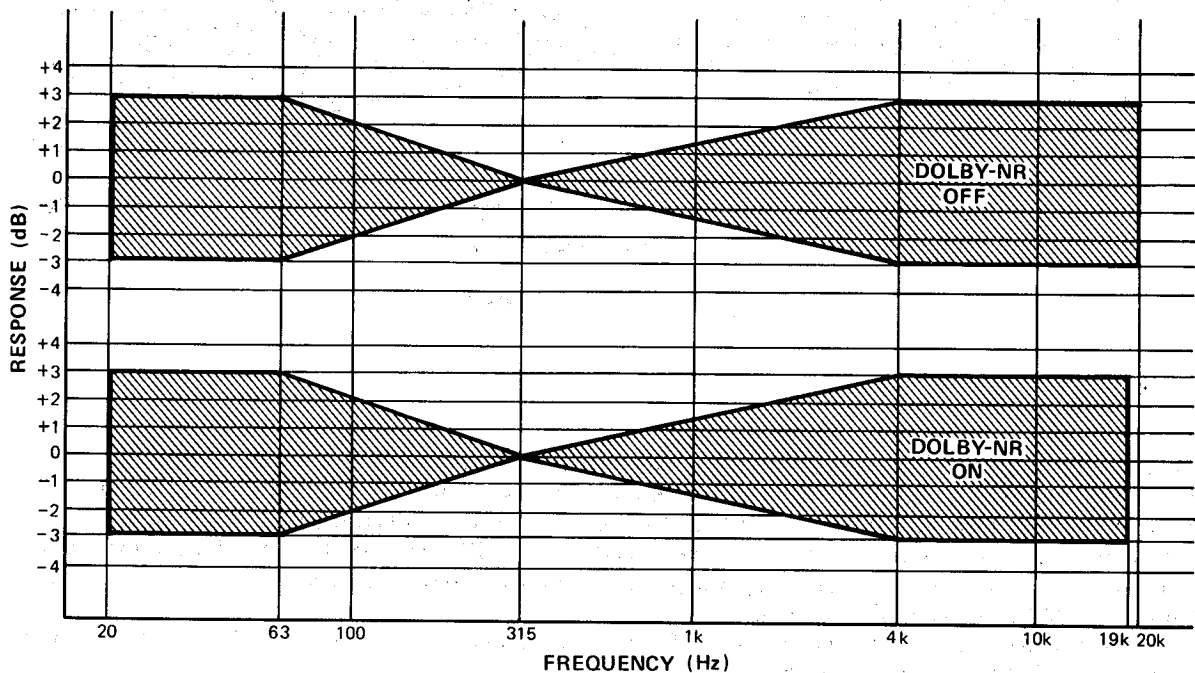

Fig. 3 – Metal
6. Play back the metal tape recorded above, note the frequency response obtained on the V.T.V.M. 2 and compare to Fig. 3.
7. If the above frequency response is not within the shaded DOLBY-NR OFF area on Fig. 3, adjust VR315 (left), VR316 (right), L301 (left peaking) and L302 (right peaking) slightly. Repeat steps 5 and 6 until playback frequency response on the V.T.V.M. 2 is adjusted within the DOLBY-NR OFF range as shown in Fig. 3.
8. Set Dolby NR switch to ON position and check if frequency response is within range of DOLBY-NR ON section of Fig. 3, if not repeat DOLBY-NR OFF procedures.